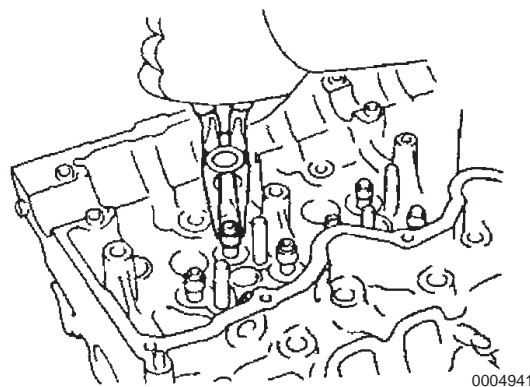

Figure 5-16
4. Remove the all stem seals using needle nose pliers (**Figure 5-16**).